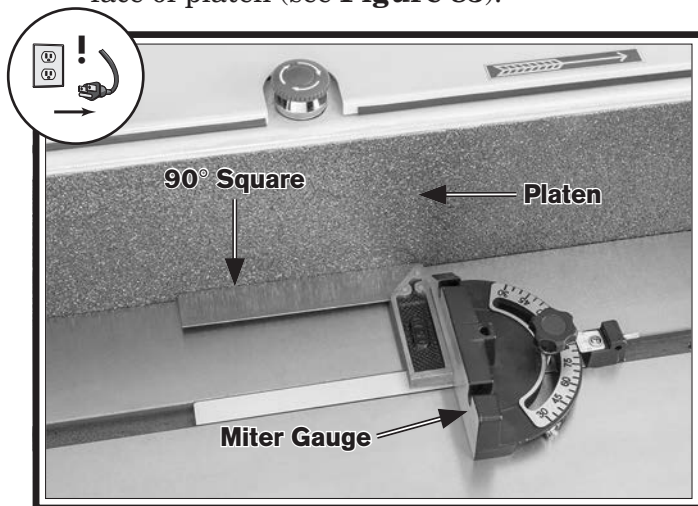

Figure 83. Square positioned to check miter angle.
4. Set one edge of 90° square against face of platen as shown in **Figure 83**.
5. Adjust miter angle until perpendicular to face of platen (see **Figure 83**).